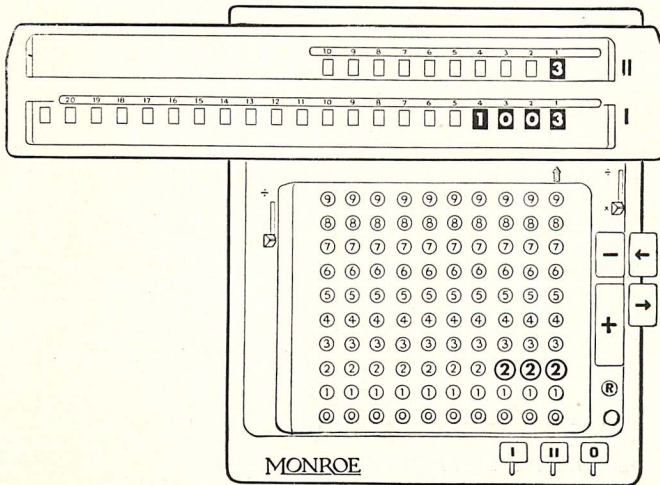
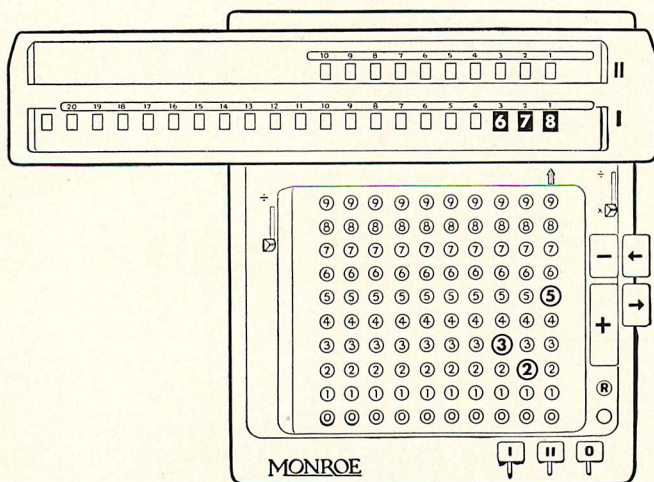

Figure 2
Figure 3
*Step 3*—Change keyboard set-up to 222. Depress the plus bar once and the final result, 1003, appears in the lower dials as shown in Figure 2. As the upper dials of the MA-7-W act as an item counter, the figure 3 indicates that there have been that number of items added in this example.
*Step 2*—Change keyboard set-up to 325. Depress minus bar. The lower dials now show the remainder and final answer, 678, as in Figure 3.